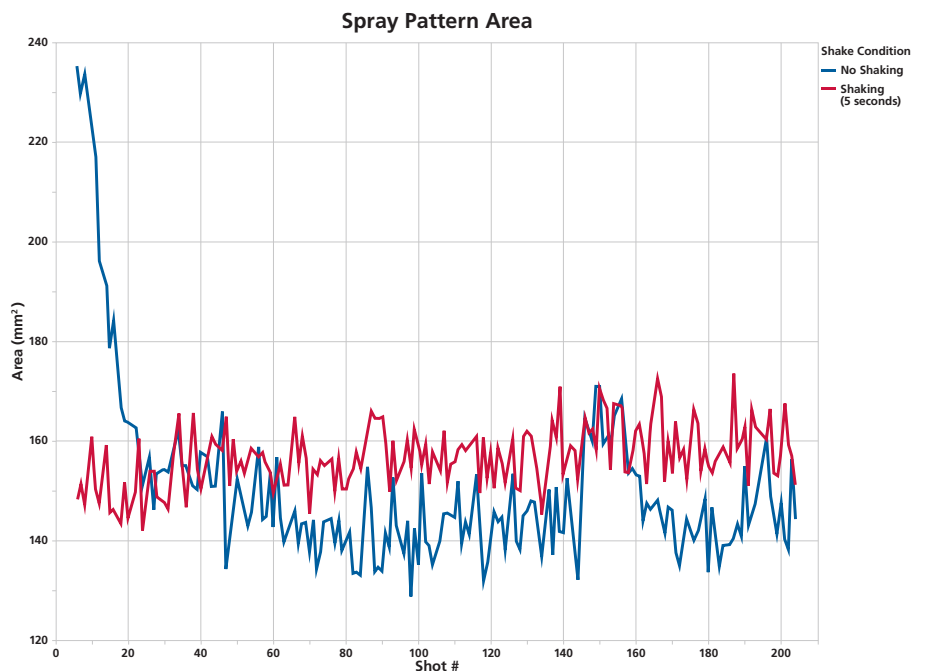

Figure 3. Effect of shaking on spray pattern area over the life of the product.
The same effect as described above was observed when spray pattern (SP) area was measured using Proveris' SprayVIEW® Measurement System over the entire life of the device (Figure 3). Initial high SP area followed by a steep drop was observed for the “no shaking” condition. In comparison, a more uniform SP area was seen for the five-second shake duration.